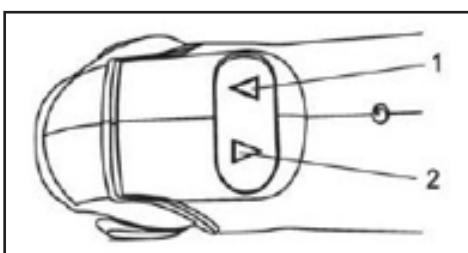

Fig.3
1. To drive screws, press the right hand side of the switch (1) (Fig. 3). To turn the switch OFF, release the switch.
2. To remove screws, press the left hand side of the switch (2).